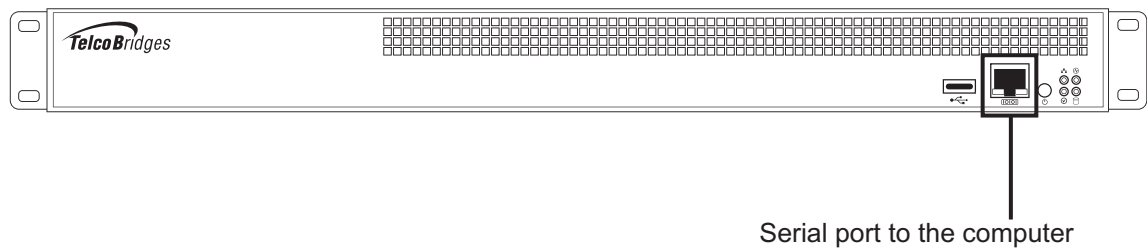

Figure 3.4 Tmedia Management Interface
1. Connect a CAT5 RJ-45 (male-male) cable (supplied with unit) between the com port of your computer and the serial port (labelled 10101) of the TMP800 Telecom Unit as shown in figure 3.4 on page 45. See Section A.2 on page 55 for a RJ-45 console wiring diagram.